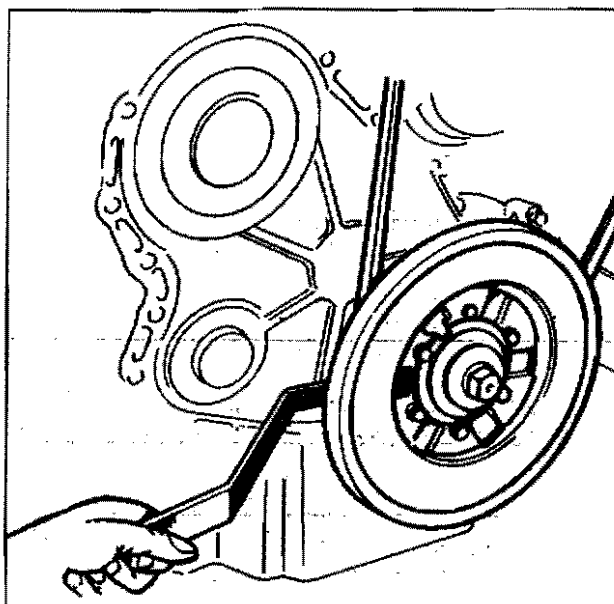

Fig. 55 Engine Turning Bar
4. Check the evenness of the cylinder compressions by turning the crankshaft with the engine turning bar Fig. 55.